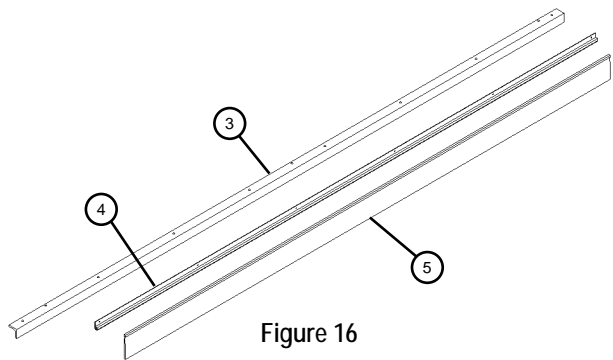

Figure 16
- See *Figure 16 & Measurement 1*. Cut Brush Holder Mounting Bar (3), Brush Holder (4), and 4" Nylon Brush (5) length to measurement of inside trailer width at tailgate.